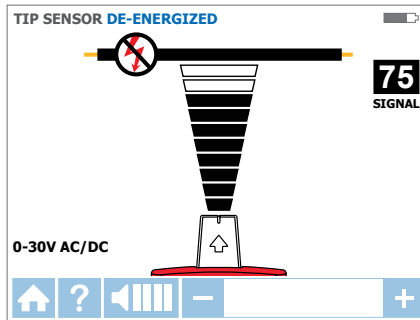

Figure 3.2c: Receiver showing signal detected in De-energized TIP SENSOR mode
4. Scan target area with Tip Sensor to find highest signal level (Figure 3.2c). While tracing, periodically adjust sensitivity to keep signal strength near 75. Increase or decrease sensitivity by pressing + or - on the keypad. If signal is too strong for precise locating, change transmitter to LOW mode.